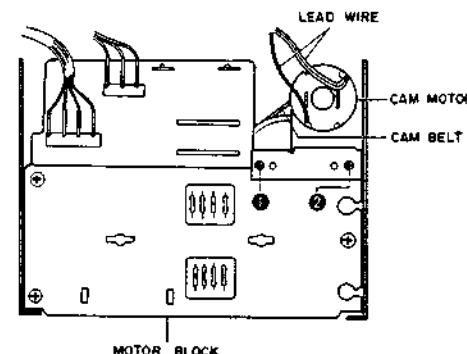

Fig. 3-8
- 3) Remove cam motor base screws ④ and ④ from the motor block. (Refer to Fig. 3-8.)